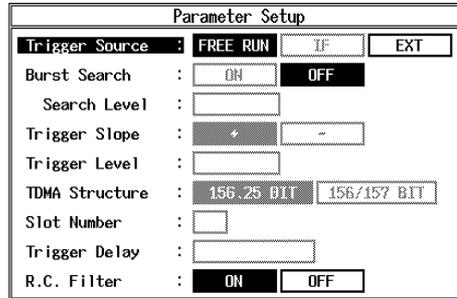

Figure 6-5 Setting of Parameter Setup
5. On the R3267 Series, press **Modulation Accuracy** and **Parameter Setup** to set R.C. filter to on as shown in Figure 6-5.